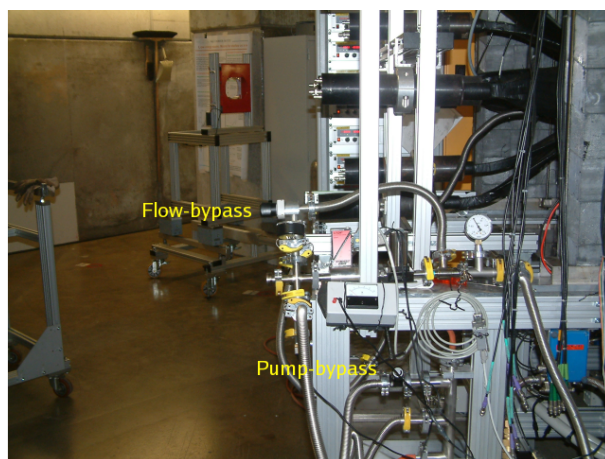

Figure 6.4: Location of Bypass Valves
- Close the pump bypass, switch on the pump by plugging the power cord and open the flow bypass (Fig. 6.4).